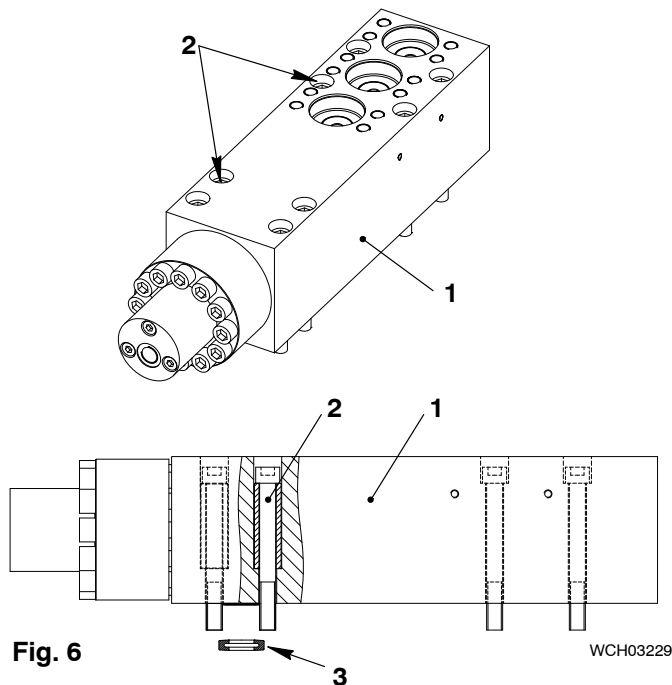

Fig. 6
- 2) Clean the sealing surface in the valve block (1, Fig. 6) and the lip seal (3). It is recommended that you install a new lip seal.
- 3) Install the lip seal (3).
- 4) Clean the related surfaces on the fuel rail and the valve block (1).
- 6) Apply Never Seez NSBT to the threads and surfaces of the eight bolts (2).
- 7) Put in the eight bolts (2) together with distance sleeves into the valve block
- 8) Tighten equally the bolts (2) with your hand.
- 9) Torque symmetrically the eight bolts (2) to 60Nm.